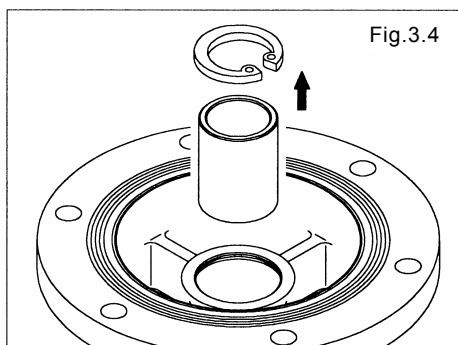

Fig.3.4
- Remove the C type snap ring, and remove the throat bearing from the air chamber. [Fig. 3.4]